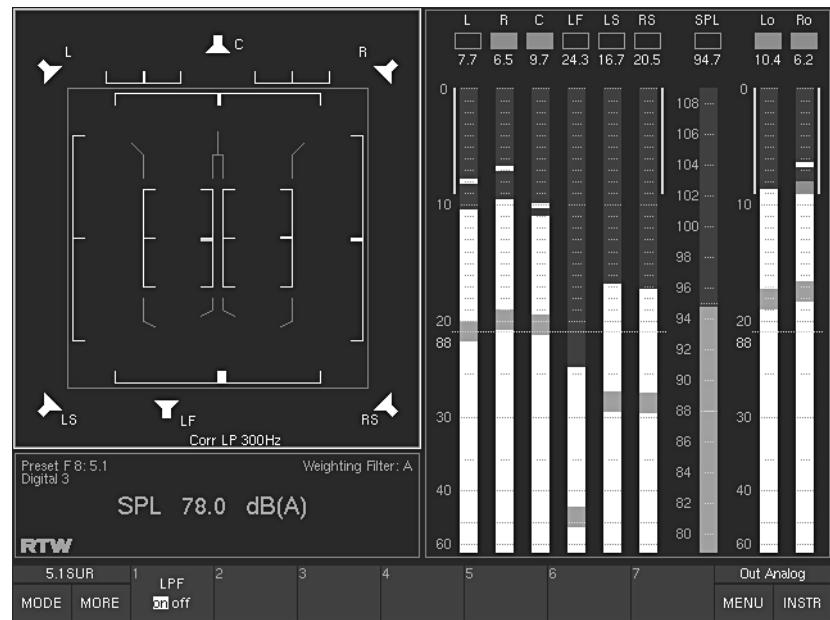

Fig. 5-19: The screen display with CORR instrument in 5.1 surround mode selected
In 7.1 surround mode the levels of the additional front channels are mixed with those of the front center channel. There is only one common front center indicator. Example see Fig. 5-19 above.
(Button/key 1, see Fig. 5-19)